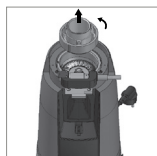

Fig. 7
8. Completely remove the upper burr tray from the cup and take out the upper burr (fig. 7).